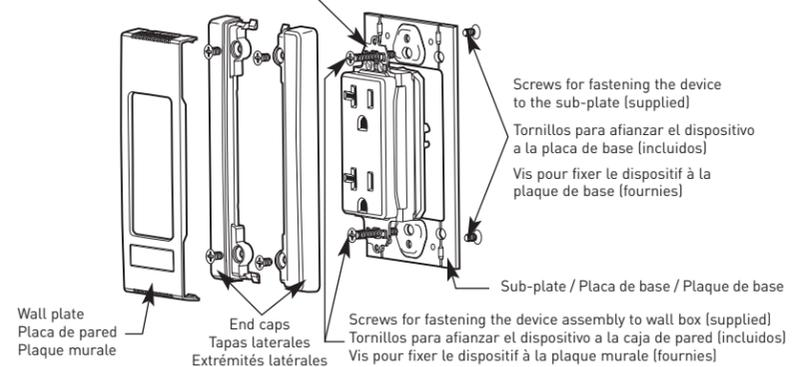

Figure 2 / Figura 2 / Figure 2
- Attach the device to the sub-plate with the two screws provided (see Figure 2).
- Wire the device per the manufacturers instructions and install the assembly in a single gang wall box with the screws provided (see Figure 2).
- Remove the plaster ears from the device (see Figure 1) and attach the device to the sub-plate, with the screws provided. (See Figure 2.)